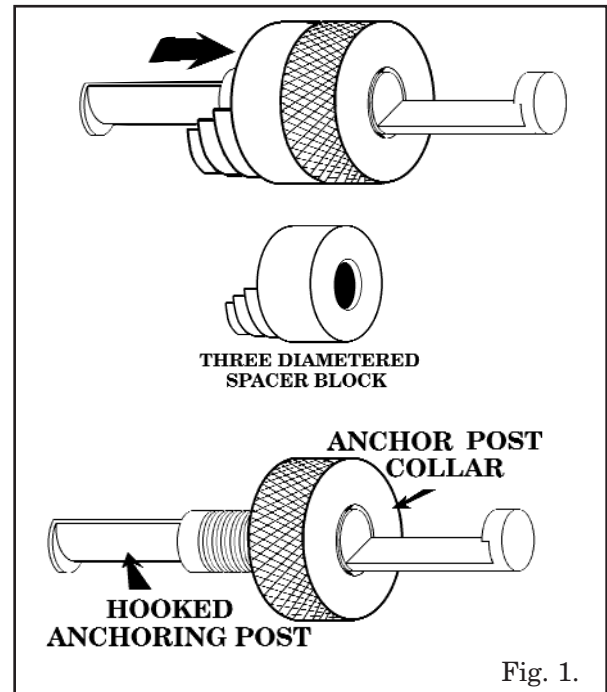

Fig. 1.
1. Place the stepped spacer block onto the hook unit. See Fig. 1. The three different diametered steps make it adaptable to three different sizes of plug bores.